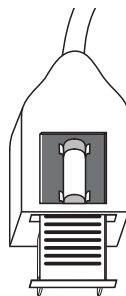

Figure 3.
3. Carefully remove the fuse from the clips holding it on the top and bottom. Figure 3.